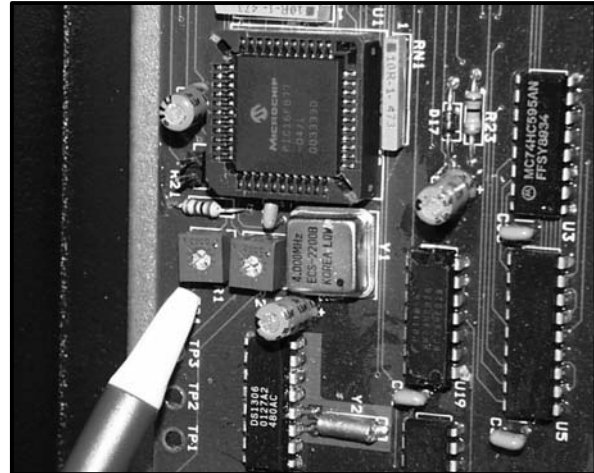

Figure 12
3. Turn the potentiometer to the required setting. See Figure 12.